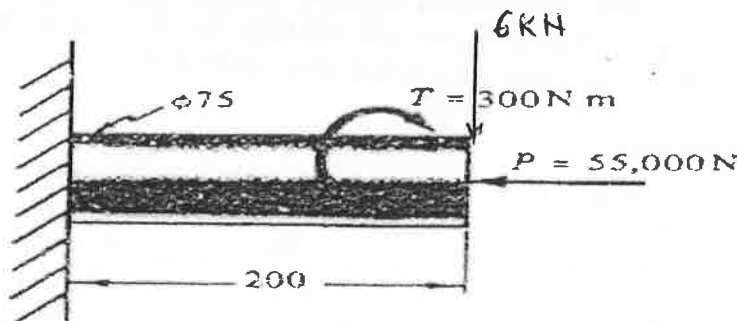

Fig. No.1, Q.No. 2 (i)
- i) A machine shaft 75mm diameter by 200 mm long and supported at one end as a cantilever. The member is subjected to loads and torsional moment as shown in fig.no.1. Calculate the maximum and minimum numerical values of stresses at point A&B